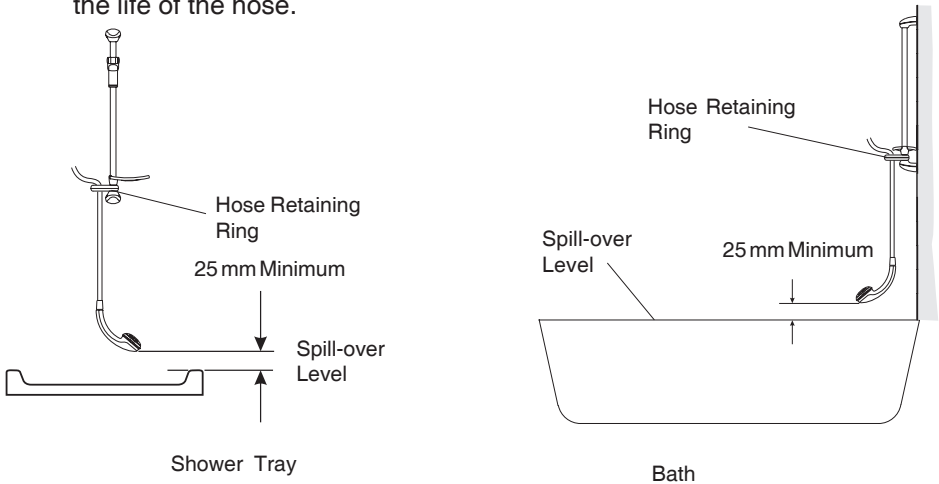

Figure 1
- 1.13. A hose retaining ring is supplied to prevent the handset from dropping below the spillover level of the bath or shower, which could lead to contamination from back-siphonage (refer to Figure 1). The supplied hose retaining ring should meet the great majority of user requirements for shower installations with flexible outlet fittings. However, there will be occasions when the hose retaining ring will not provide a suitable solution. In these instances an **outlet** double checkvalve, e.g. the Mira DCV-H, **must** be fitted. The inclusion of the Mira DCV-H will increase the required supply pressure typically by 0.1 bar.
- 1.1. Decide on a suitable position for the Mira Go (minimum distance of 200 mm from the ceiling to allow for cover fit and removal). The position of the Mira Go and the shower fittings must provide a minimum gap of 25 mm between the spill-over level of the shower tray/bath and the handset. This is to prevent backsiphonage (refer to Figure 1, Section 7).